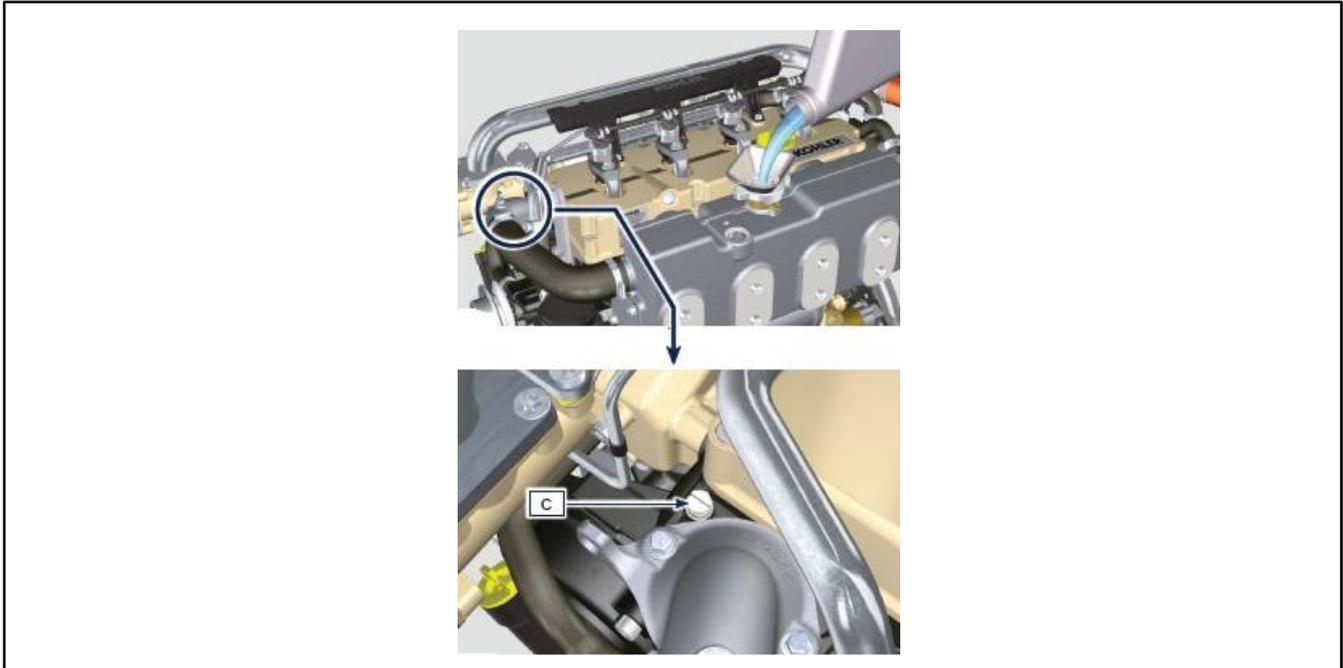

Figure 39 Bleed Point Location
3. Loosen the cap screw C (shown in Figure 39) to release any air and tighten the cap screw C. Torque cap screw to 8 Nm.